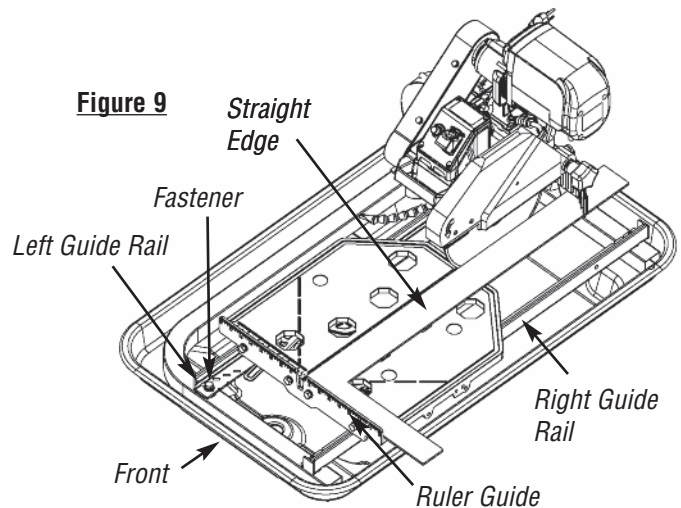

Figure 9
2. Place a straight edge (i.e. carpenter's square) on the cutting table as shown in *Figure 9*.
3. Loosen the left and right guide rails by loosening the fasteners found at the ends of the rail. See *Figure 9*. The left rail should be slightly loose, so there is not too much play during adjustments, but the right rail should move freely.